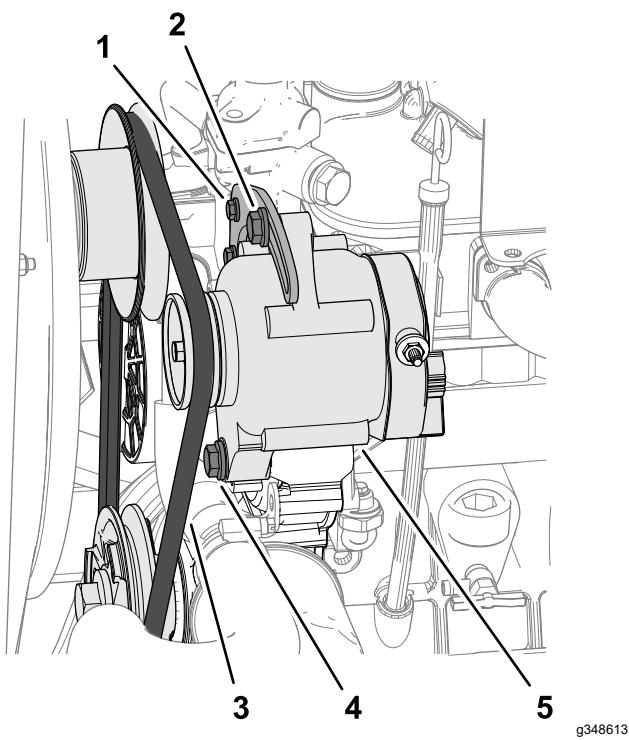

Figure 83
4. Apply 10 kg (22 lb) of force against the alternator belt (Figure 83), midway between the pulleys.
- If belt deflection is less than 10 mm (3/8 inch), loosen the alternator pivot bolt and tension bolt (Figure 83), and reduce the belt tension.
- If belt deflection is greater than 10 mm (3/8 inch), loosen the alternator pivot bolt and tension bolt (Figure 83), and increase the belt tension.
- Note:** If needed, loosen the tension bracket bolt (Figure 83).
6. Tighten the bolts (Figure 83).